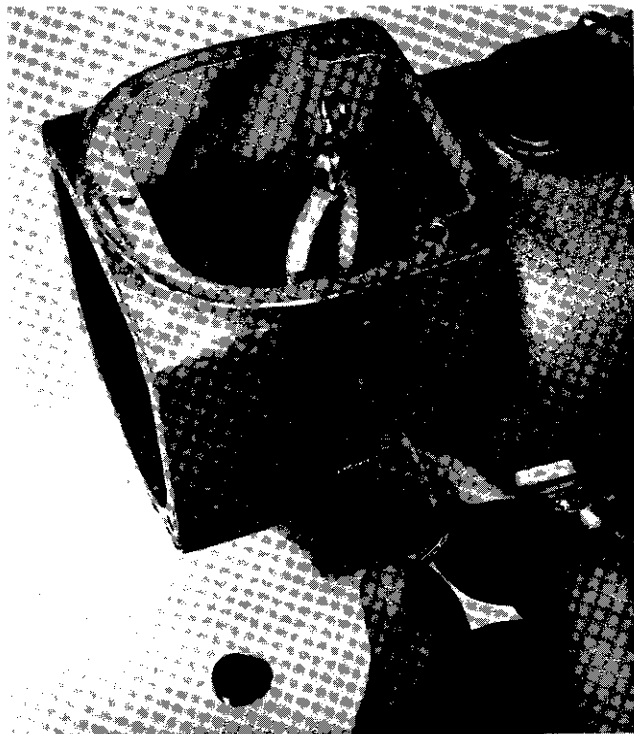

FIG. 13 - Loosening Magnet Setscrew
- (j) Remove the screw plug (26W63) from the side of the governor housing (Figure 13). Looking into the hole, rotate the magnet (26W84) until the magnet setscrew (81W33) on the magnet hub lines up with the hole. Loosen, but do not remove, the setscrew. The magnet can then be removed by inserting a screwdriver through the plug opening and prying against the magnet hub. Do not pry against the magnet itself.